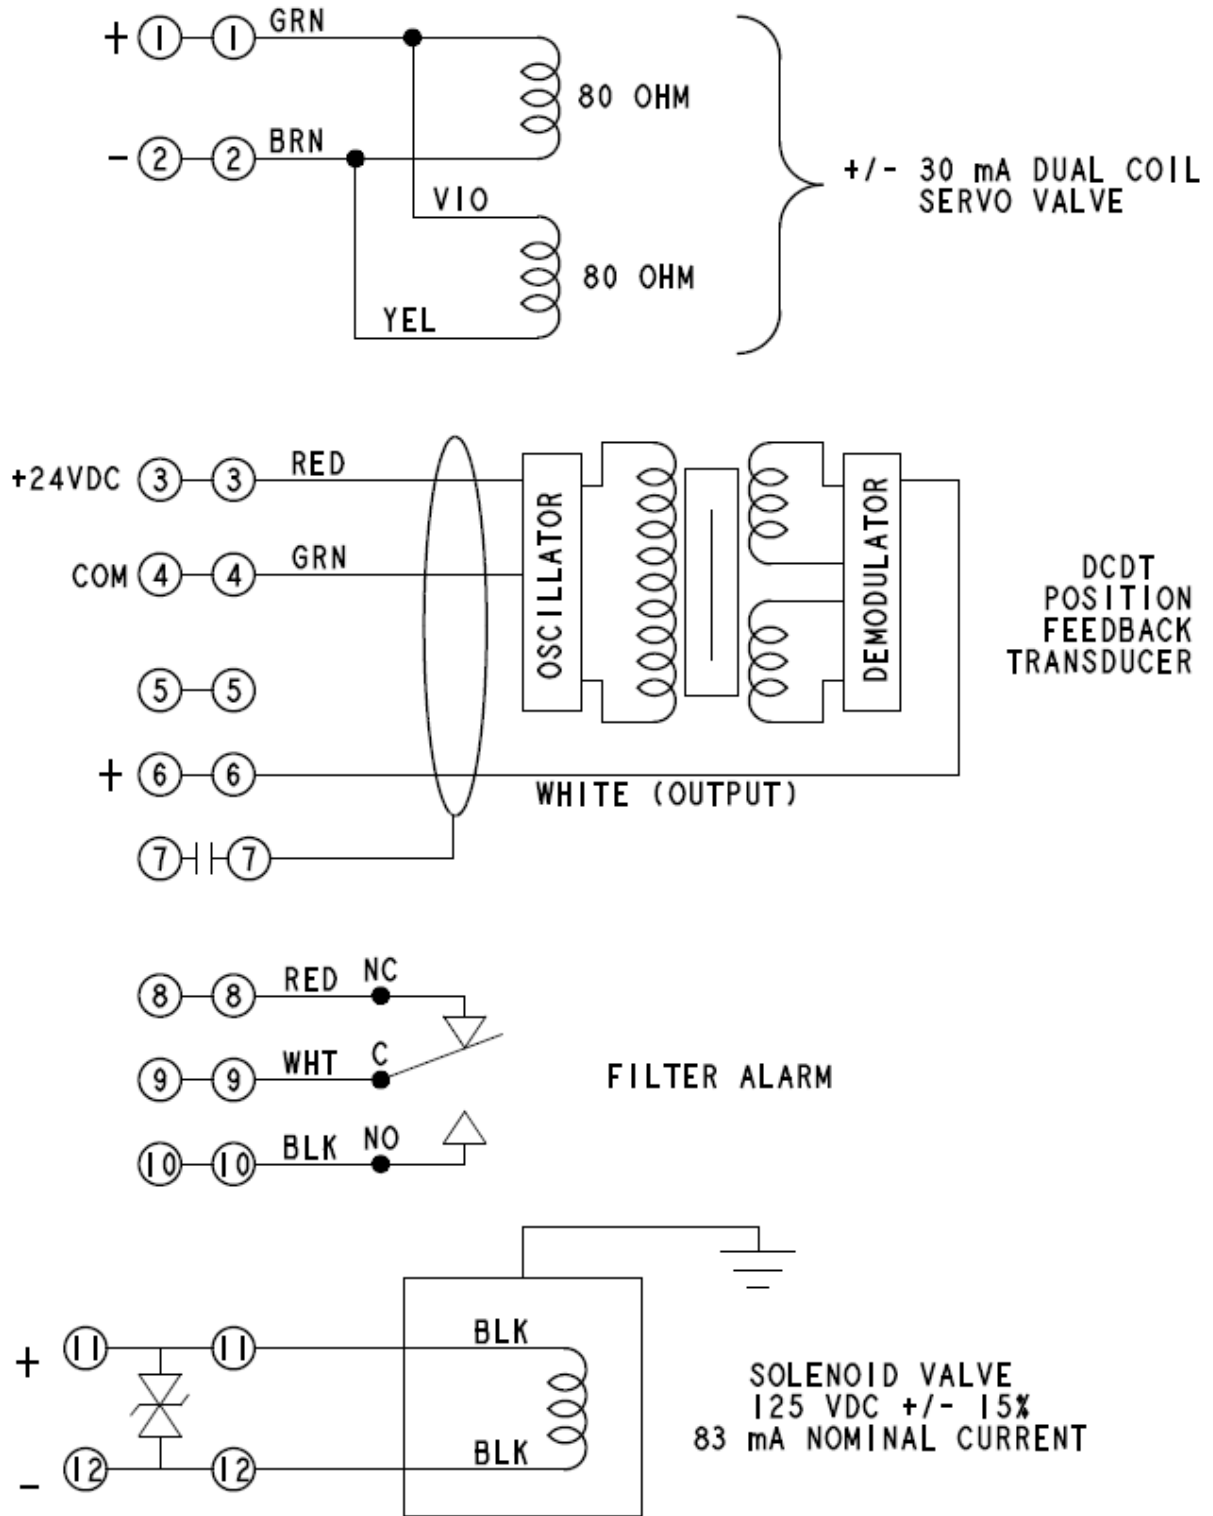

Figure 1-3b. Controller Wiring Diagram
16. Install wires into the filter alarm switch connector blocks labeled according to Figures 1-3b and 3-1. If it is necessary to cut wires for installation, be sure to retain at least one service loop of wiring.